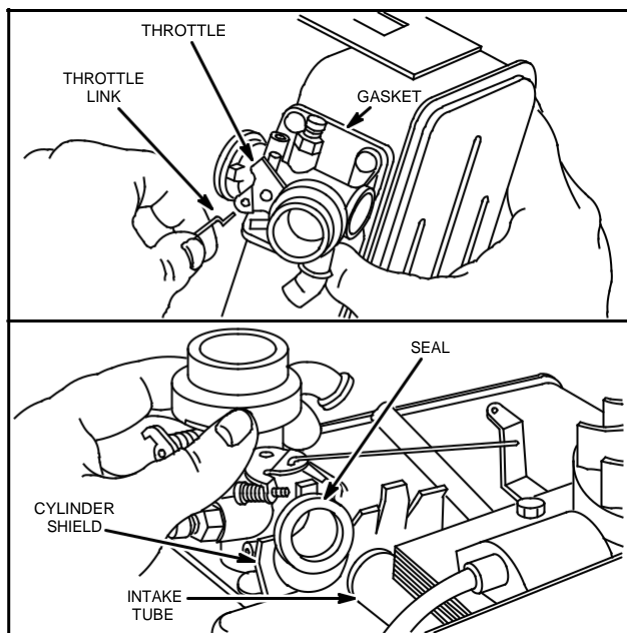

Fig. 251 - INSTALLING CARBURETOR MODEL SERIES 100900, 130900, 131900
- Hook throttle link to throttle lever, Fig. 251.
- Slip carburetor over notch in cylinder shield and around intake tube, Fig. 251.